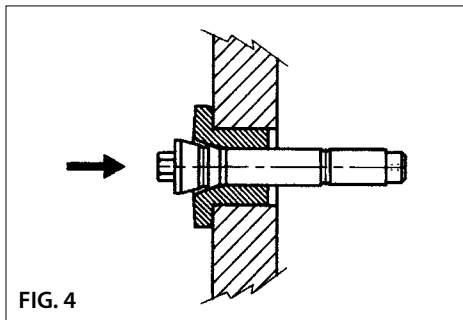
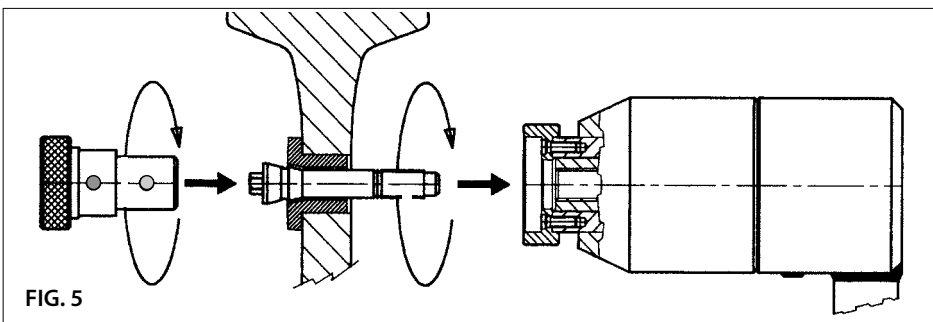

FIG. 4
FIG. 5
2.5) Insert the calibrated plunger OG ... into the bush, on the flange side (Fig. 4). Ensure that the ram, in the head is fully retracted. Using the recess in the gauge CAL screw and tighten the plunger OG... into the tool head (Fig. 5).